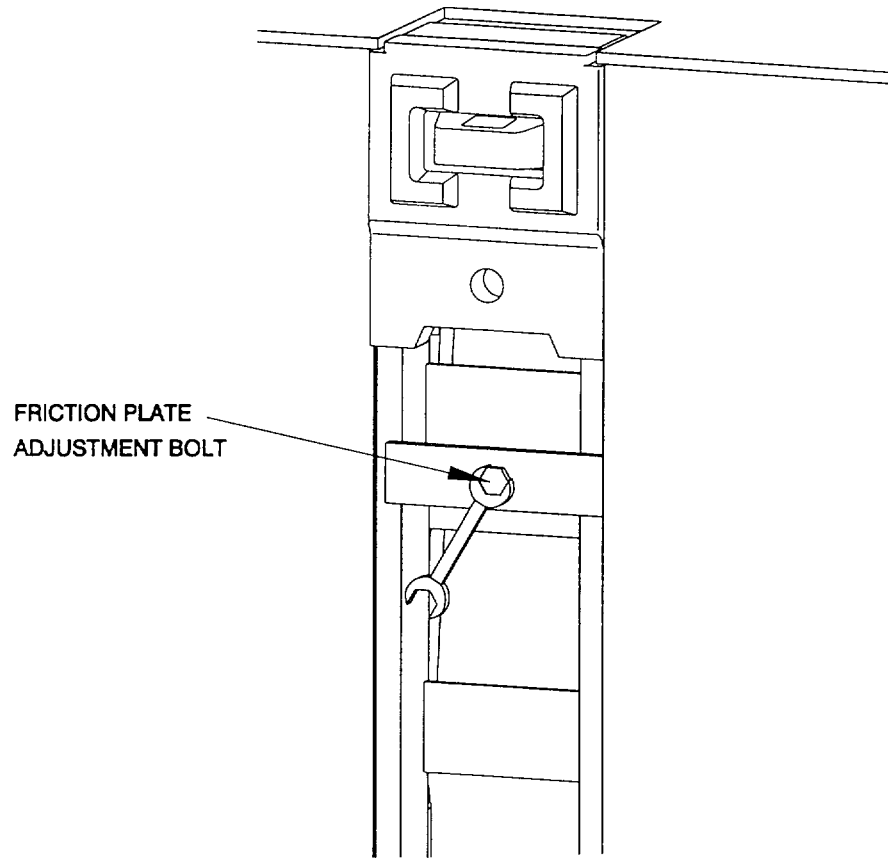

Figure 2-86. P40 40' Non-Powered Pontoon Assembly, Adjustment.
- c. Adjust. (figure 2-86)
- (1) Locate the friction plate for a connector assembly.
- (2) Adjust tightness of the bolt located at each connector location using two standard wrenches, as shown in (Figure 2-86) One standard wrench is used to hold the nut of the friction plate while the other wrench loosens or tightens the assembly.